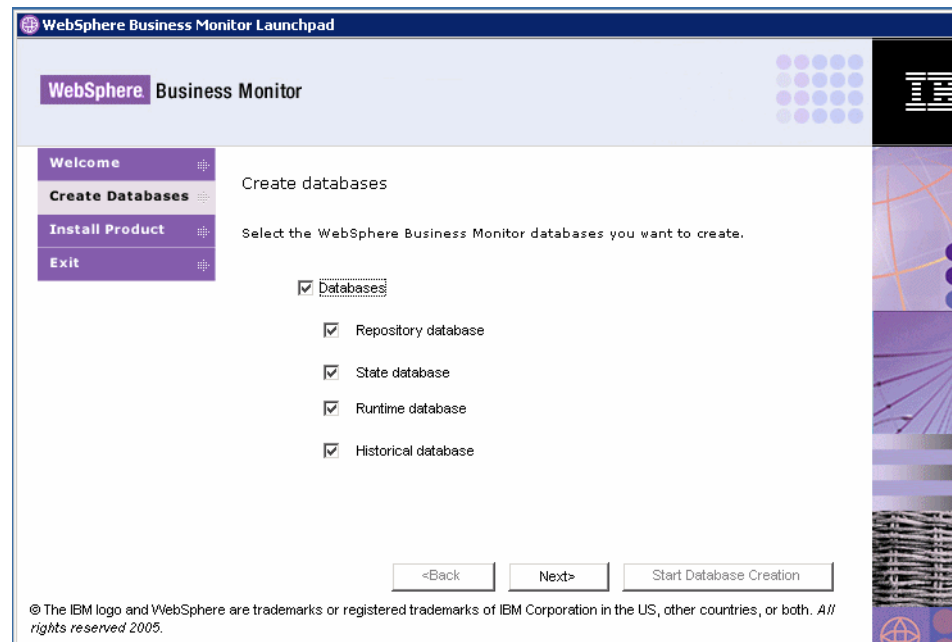

Figure B-3 Monitor Server installation: Create databases
- ▶ Click *Create Databases* in the Launchpad, then select *Databases* and all four databases are selected (Figure B-3).